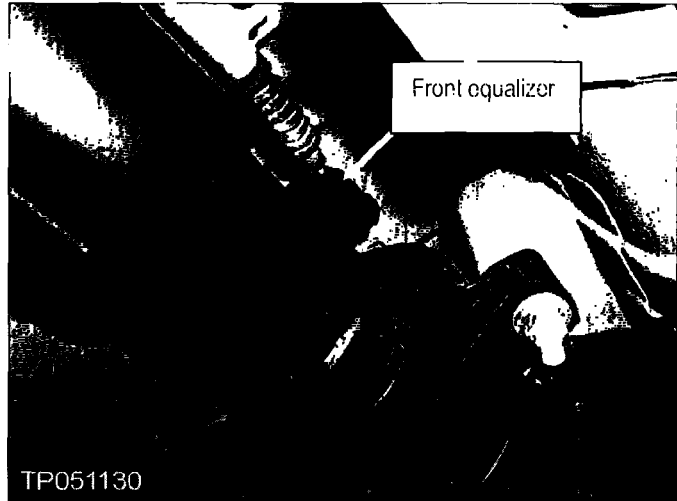

Figure 16
16. Remove the parking brake cables from the front equalizer (see Figure 16).